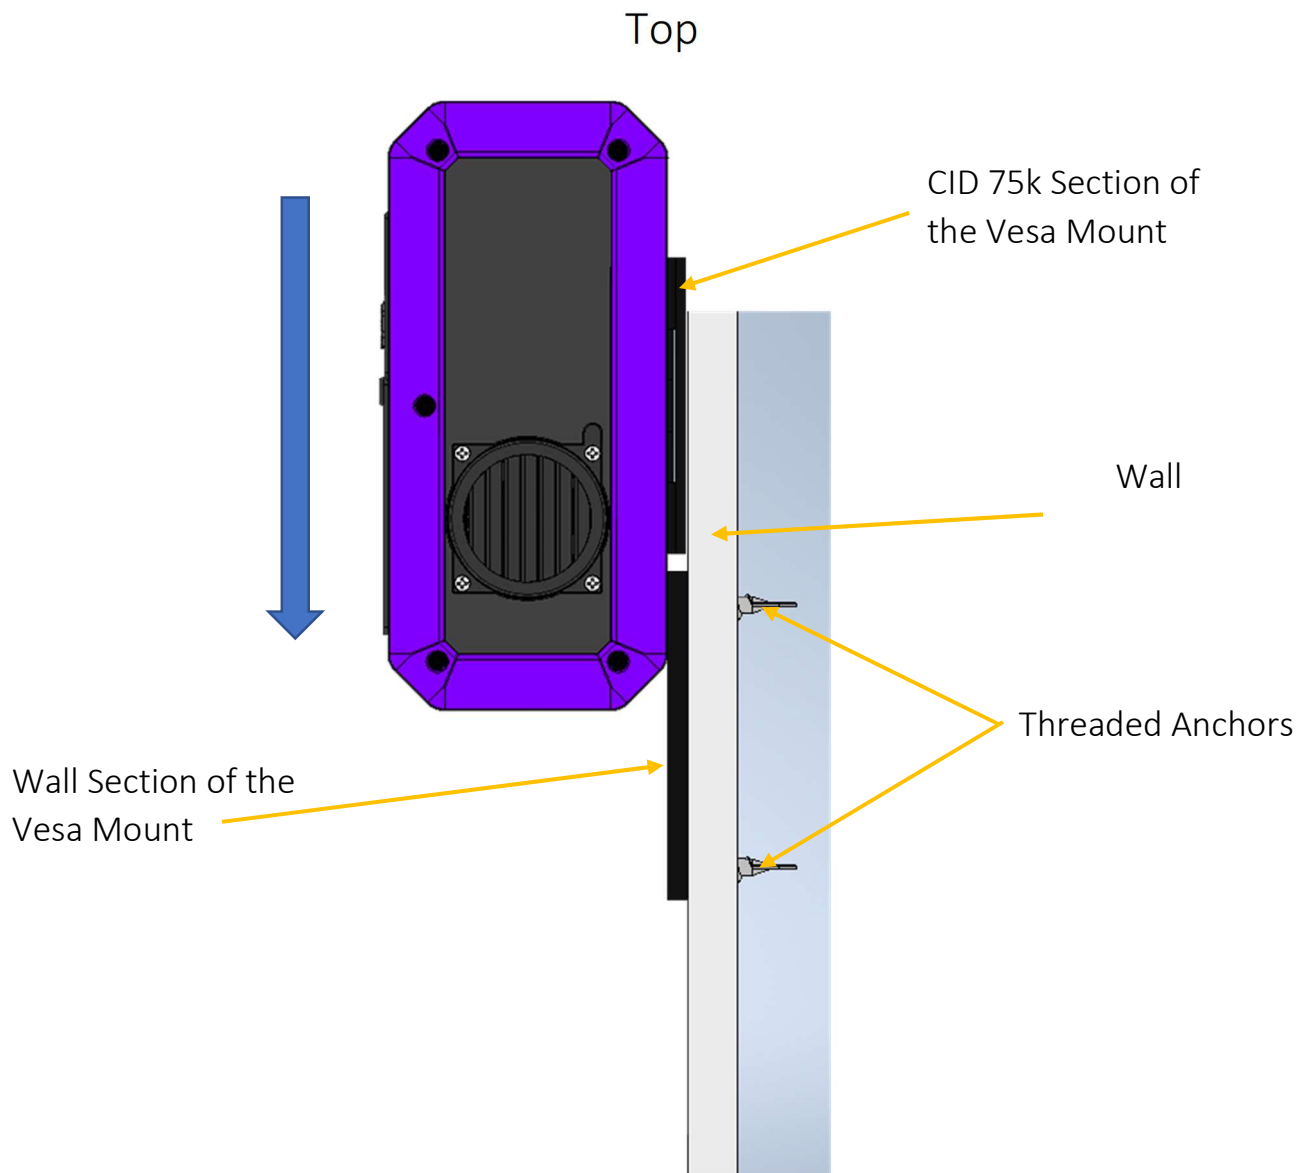

Fig 2.
8. Once the mount is secured to the wall, align the section of the mount on the back of the CID 75k so that it slides down from the top onto the section of the mount that is mounted on the wall as shown in Fig 2. The CID 75k will slide down onto the wall mounted section from the top.
12 Installation Procedure Fig 2